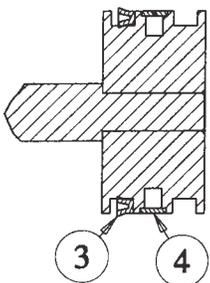

Figure 2
3. Install one of the piston seals into the groove nearest the rod. The two lips of the seal should face toward the rod end of the piston. *See Figure 2.*
4. Install wear ring to center groove. *See Figure 2.*